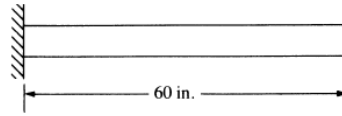

Figure 8
- k) For the one-dimensional bar shown in Figure 8, determine the natural frequencies of longitudinal vibration using first two and then three elements of equal length. Let the bar have $E= 30 \times 10^6$ psi, $\rho= 0.00073$ lb-s²/in⁴, $A=1$ in², and $L= 60$ in.